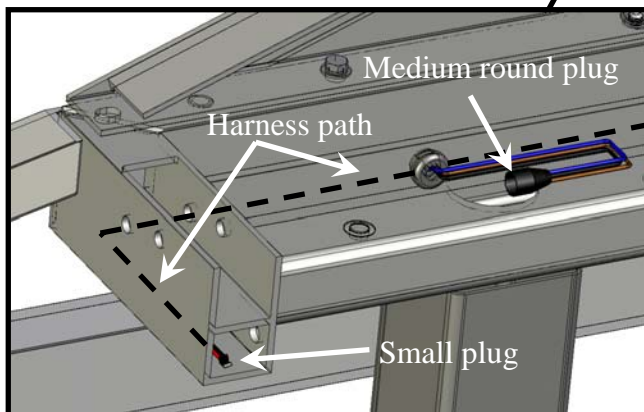

Figure 7
- c) Using an electrical fish tape, route the harness so the medium round plug exits the truss as shown in Figure 7.
- d) Route the harness so the smallest plugs exit the end truss as shown in Figures 7 and 8.